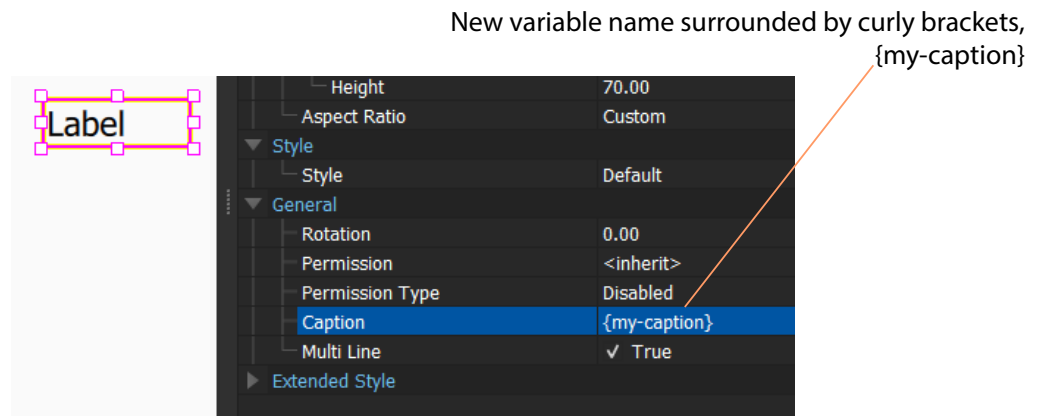

Fig. 4-7: Variable Name in Property Value Field
- The new variable name appears in the property value field surrounded by curly brackets. See Figure 4-7.